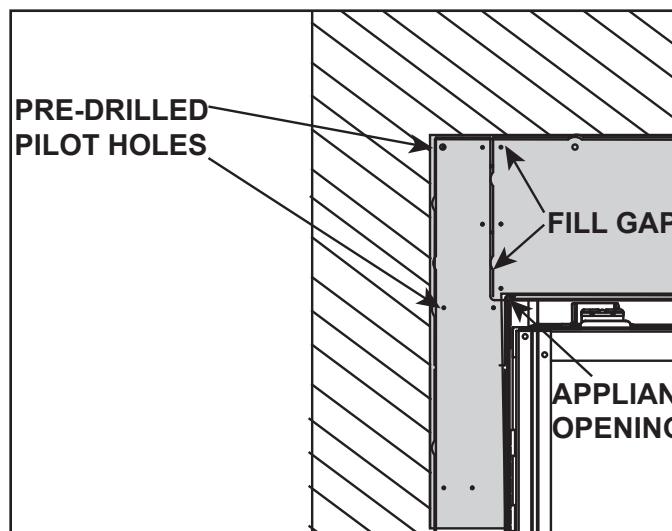

Figure 10.1 Install Non-Combustible Board
- Seal gaps between the finished wall and appliance top and sides using a 300 °F minimum sealant. Refer to Figure 10.1 and Figure 10.2.
The factory-supplied non-combustible board must be used in all installations. It must be directly attached to structural framing adjacent to the appliance. Screw fasteners should be installed in the pilot holes provided in the outer perimeter of the non-combustible board. See Figure 10.1 and Figure 10.2.
3. The outer perimeter of the factory-installed non-combustible board has pre-drilled pilot holes. See Figure 10.1. Secure the non-combustible board to adjacent framing with drywall screws that are a minimum of 1-1/4 inch in length. Care should be taken not to tighten these screws into the non-combustible board excessively. Set screws flush to the face of the non-combustible board. See Figure 10.2 and Section 6.D.
4. When installing drywall around the appliance, install a rectangular hole for the fireplace/non-combustible board in a single sheet of drywall. This will minimize the joints that require finishing adjacent to the fireplace opening. Ensure that the 1/8 inch gap is maintained between the factory installed non-combustible board and the surrounding drywall. See Figure 10.1. Secure the drywall to the framing with screws a minimum of one inch in length every six inches across the top of the fireplace and every ten inches on the sides of the fireplace.
1. **Step 1:** Fill all gaps and joints between the non-combustible board pieces and the drywall with a general purpose chemically setting joint compound such as Durabond® 45 Joint Compound manufactured by USG (Sheetrock® brand), recommended by Hearth & Home Technologies. Use a drywall knife to firmly press the joint compound into all gaps. See Figure 10.1. Allow these joints to dry.